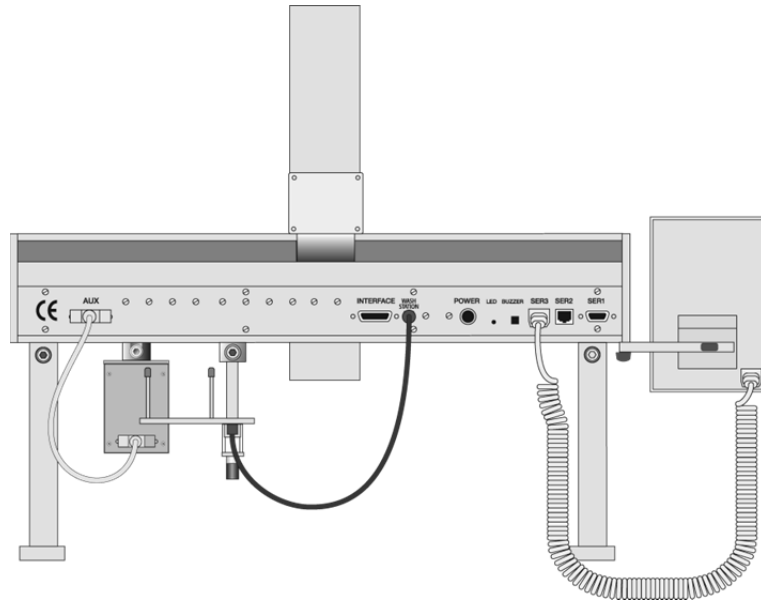

Figure 23. Electrical Connections for LC PAL System
3. Connect one end of the white coiled cable (Part No. SS8J-700) to the Keypad and the other end to the **TERMINAL (SER3)** for PAL System) interface jack on the rear side of the X-axis. For details see Figures 23 and 24.